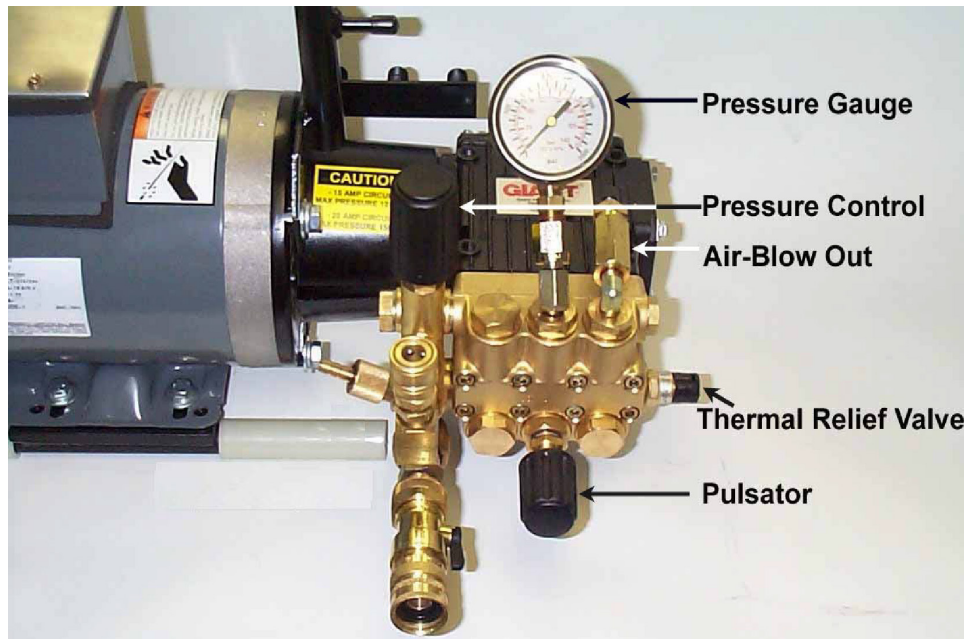

Fig. 6
10. The “Mini Jet” will operate up to 1500 psi. If the machine is operating at a lower pressure, the pressure control knob can be turned clockwise (right) to increase the pressure. The operating pressure is shown on the pressure gauge. (See Fig. 6.)